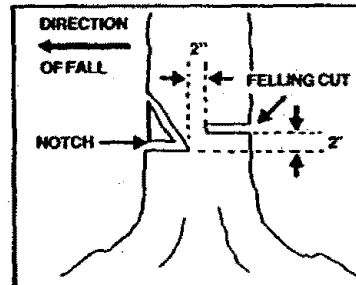

Figure 30
- a. Make the notch cut. Figure 30.